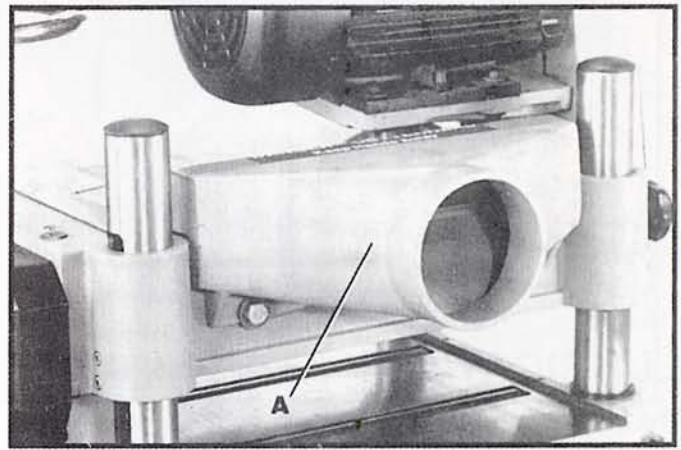

Fig. 53
Available as an accessory for your 15" Planer is the 22-678 Shaving Hood (A) Fig. 53, which is assembled to the rear of the machine, as shown, using two screws and washers. When the shaving hood (A) is connected to a dust collection system, it provides an efficient means of maintaining a clean and safe work area.